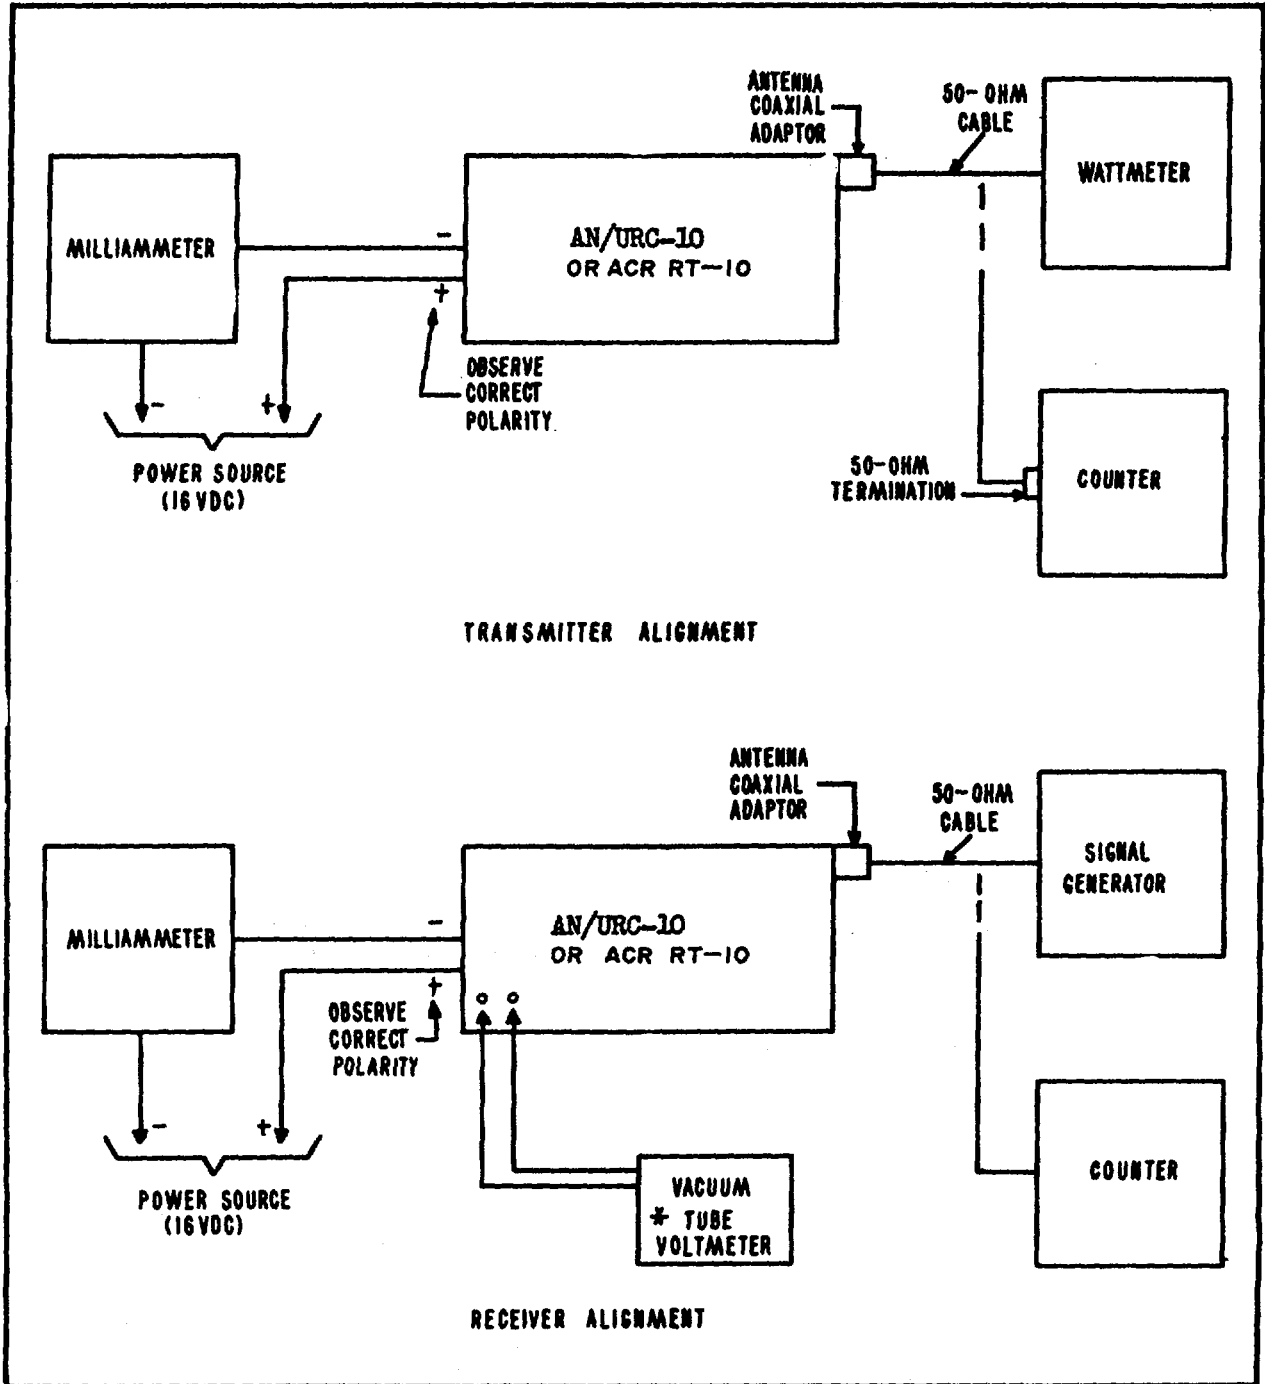
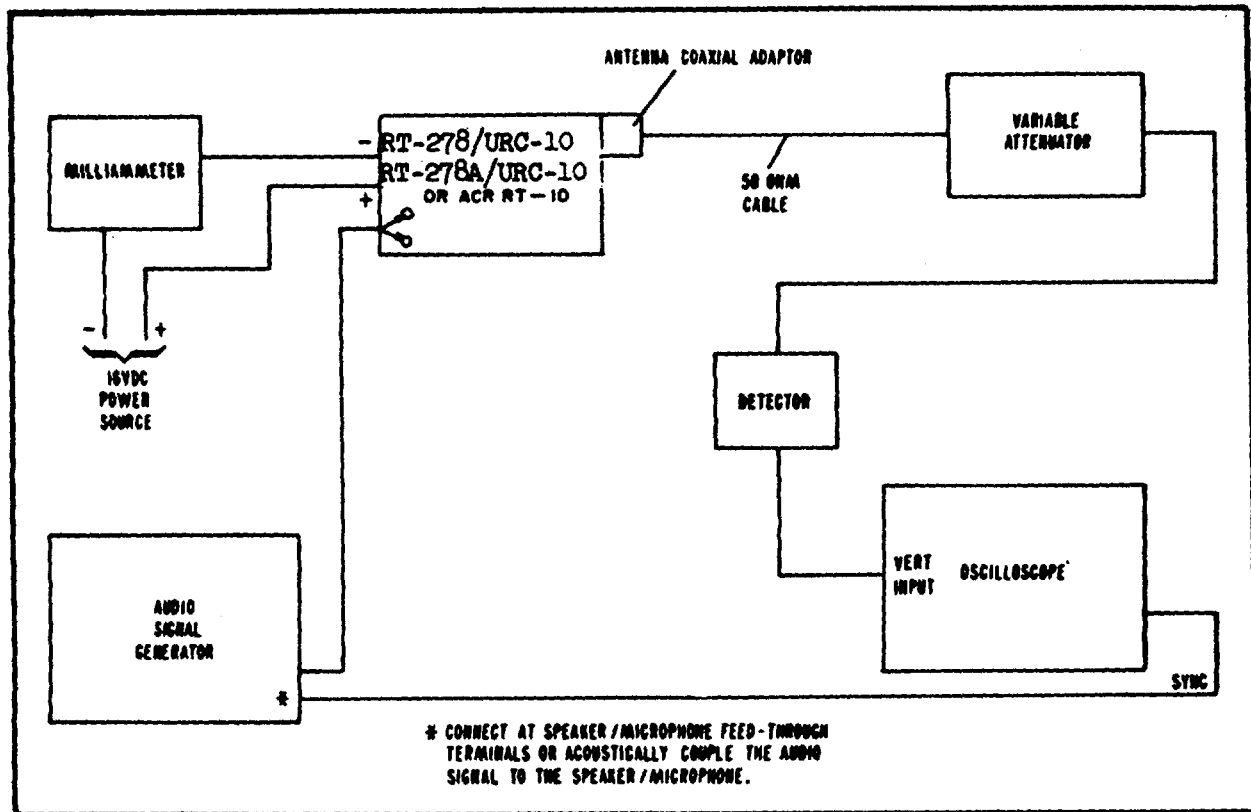

Figure 6-3. Radio Set AN/URC-10 or ACR RT-10 Bench Test Set-Up Diagram
Figure 6-10. Modulation Checks, Test Setup
**6-4.** The test set-up required for test and alignment of radio sets AN/URC-10 and ACR RT-10 is shown in figure 6-3, No alignment procedures can be performed on radio set RT-278B/URC-10A.
- b. Connect the equipment as shown in figure 6-3.
Figure 6-3 and figure 6-10 show the test setups required during alignment. This alignment includes measurement of the transmitter frequency, modulation and power, the receiver frequency and sensitivity, and actual adjustments of the transmitter and receiver modules to achieve correct power and sensitivity values.
(1) Connect the equipment as shown in figure 6-3, and connect the wattmeter to the antenna coaxial adapter. Remove the cover from the radio set and install the test cover (having holes for alignment).
(2) Key the transmitter and check for indication of output power; then peak all adjustments as described in step f.
(1) Preset the following adjustments as noted:
(2) Connect the ammeter in the power line as shown in figure 6-3 and adjust T101 inward until the first peak of current is noted on the ammeter.
(3) Adjust T102 inward until maximum current reading is obtained.
(4) Slowly adjust C112 for an indication of output power. If none is seen, alternately adjust L103 one-turn in either direction and then again adjust C112 until an output power indication is obtained.
**6-32. MODULATION CHECK** (See figure 6-10). For this modulation check, it is first assumed that the radio set has been connected as shown, and that the transmitter module power output adjustments have been made (paragraph 6-31, steps a. through f.)